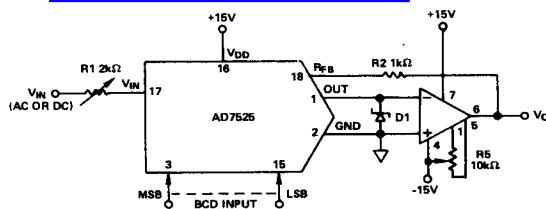

Figure 4. Digitally Controlled Attenuator Circuit
3. The inputs of some IC amplifiers (especially high speed types) present a low impedance to  $V_-$  during power sequencing. To prevent the AD7525 OUT terminal (pin 1) from exceeding  $-300mV$  (which causes catastrophic substrate current), a Schottky diode, HSCH 1001 or equivalent, is recommended. While not required for most amplifier types, provision for the diode should be made during layout. The diode should be connected between OUT (pin 1) and GND (pin 2) as shown in Figure 4. Protection Schottkys not required when using TRI-FET output amplifiers such as the AD542 or AD544.